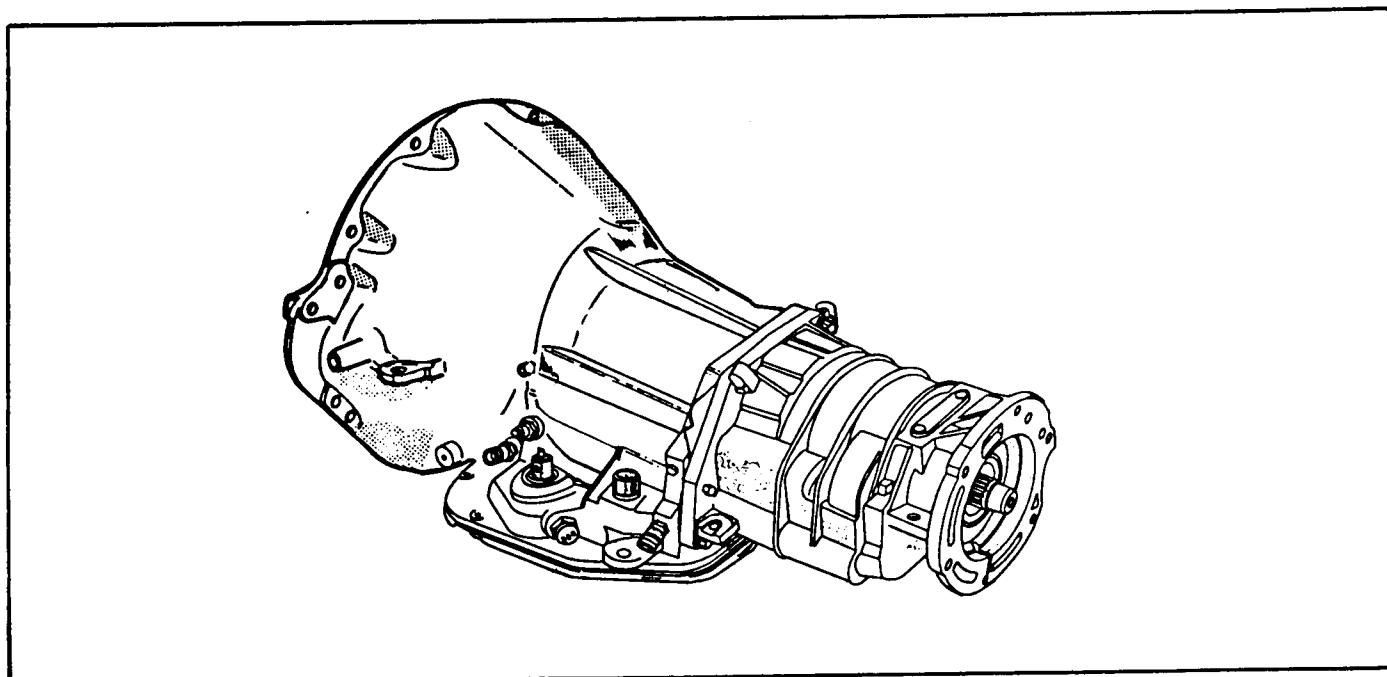

Figure 46
70. Lay transmission assembly down on the bottom pan as shown in Figure 46.